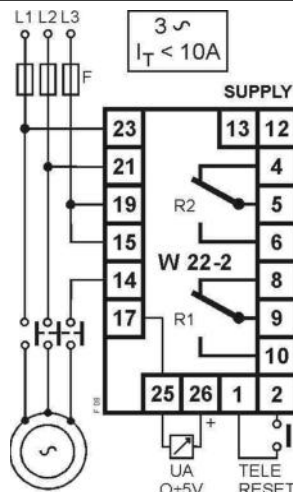

Fig. 8
Seguire lo schema di fig.8
a) Se  $I_t$  é minore di 10A si può usare l'inserzione diretta (v. schemi di fig.8 e 10.)
Tensione motore 400Vac,  $I_t=3,5A$  (fig.8).
Follow diagram of fig.8
- a) If  $I_p$  is lower than 10A the device is by direct insertion connected (fig.8 and 10)
Motor Voltage 400Vac  $I_p=3,5A$  (fig.8). The table A shows that the selector range has to be set for 5A. It will appear that the power motor is lower than the values mentioned in the last column (practical values of kW).